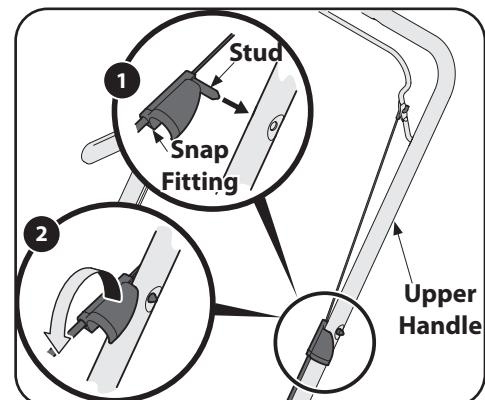

Figure 2-3
- Press the stud found inside the snap fitting into the hole found on the left side of the upper handle, as shown in Figure 2-3.